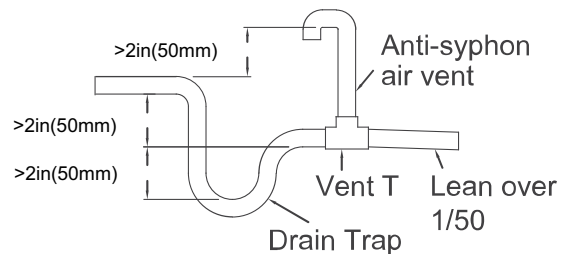

Fig. 14 — Drain Trap
- Figure 14 shows how to trap or plug all drains during right-hand discharge.